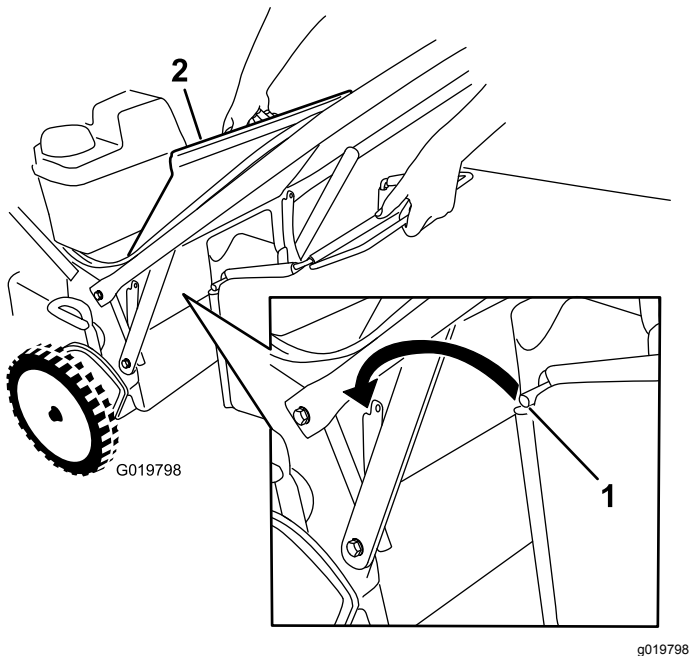

Figure 23
1. Raise and hold up the rear deflector (Figure 23).
3. Install the bag rod into the notches at the base of the handle, and rock the bag back and forth to ensure that the rod is seated at the bottom of both notches; refer to Figure 23.